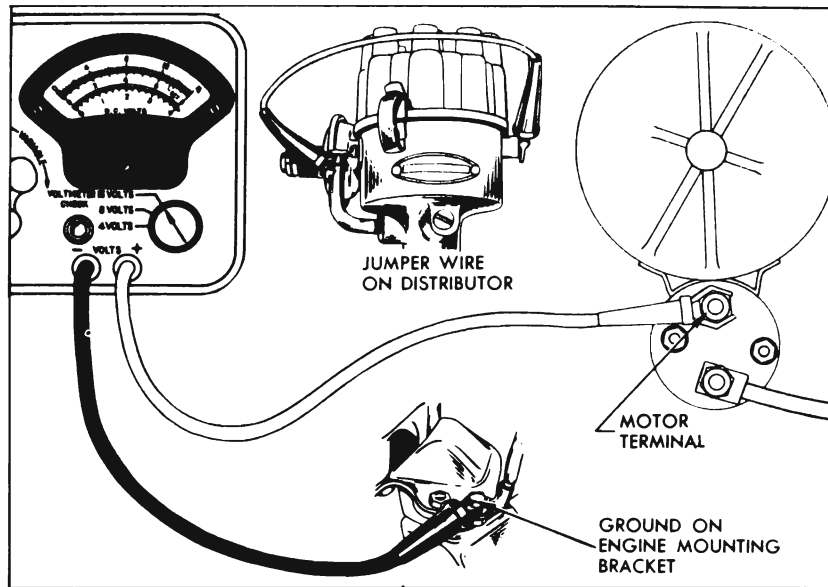

Figure 10-32—Cranking Voltage Test Connections
3. Remove cranking motor splash pan and connect voltmeter positive (+) lead to the motor terminal on solenoid switch; connect voltmeter negative (—) lead to ground on engine. See figure 10-32.